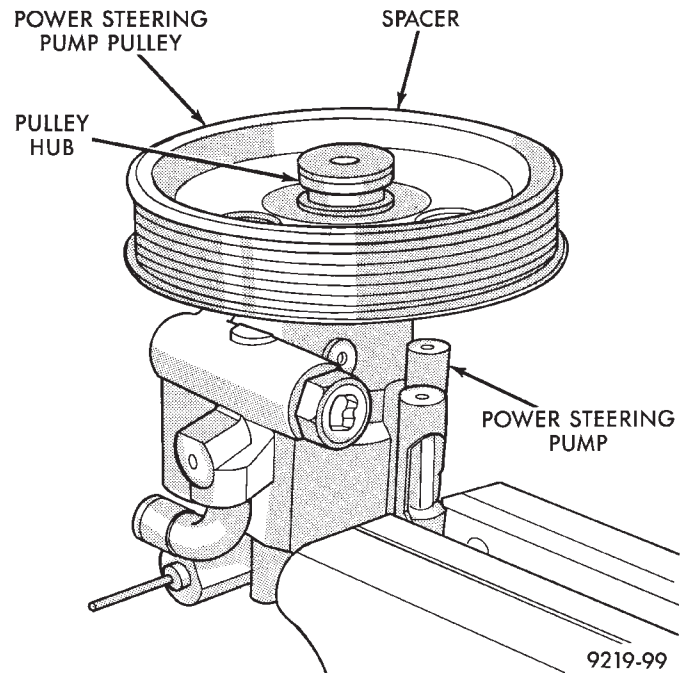

Fig. 5 Pulley And Spacer Installed On Pump
(1) Place the power steering pump pulley on the end of the power steering pump shaft. Make sure the pulley is installed squarely on the end of the shaft (Fig. 5).
(2) Install the spacer provided with the replacement power steering pump or power steering pulley into the hub of the power steering pump pulley (Fig. 5).